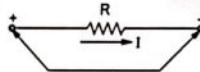

Fig. 1.7.1 Ohm's law
- The Ohm's law gives relationship between the potential difference (V), the current (I) and the resistance (R) of a d.c. circuit.
- Mathematically,  $I \propto \frac{V}{R}$  Where I is the current flowing in amperes, the V is the voltage applied and R is the resistance of the conductor, as shown in the Fig. 1.7.1.